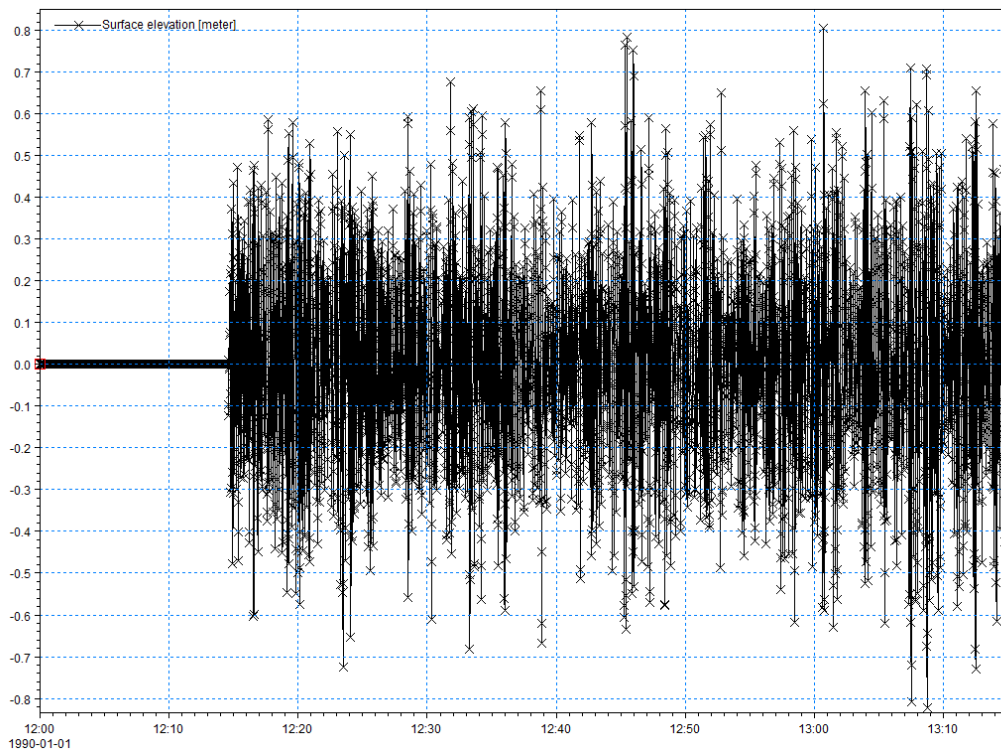

Figure 2.15 Water Surface Elevation time series with a zero warmup period
- e. The final surface elevation time series are shown in Figure 2.15.